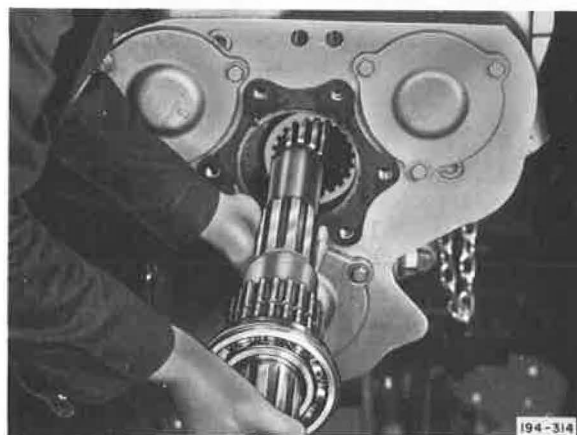

Figure 5-49. Installing Mainshaft
15. Start mainshaft in case through gear bearing opening. See Figure 5-49. Advance shaft through reverse speed gear, second and third speed sliding clutch and fourth speed gear until rear bearing positioning snap ring seats against case. Install speedometer drive gear on shaft. Apply sealer compound and install rear bearing cover gasket and cover. Install cover capscrews and tighten to recommended torque. Oil lip of cover oil seal, and install drive flange and nut.